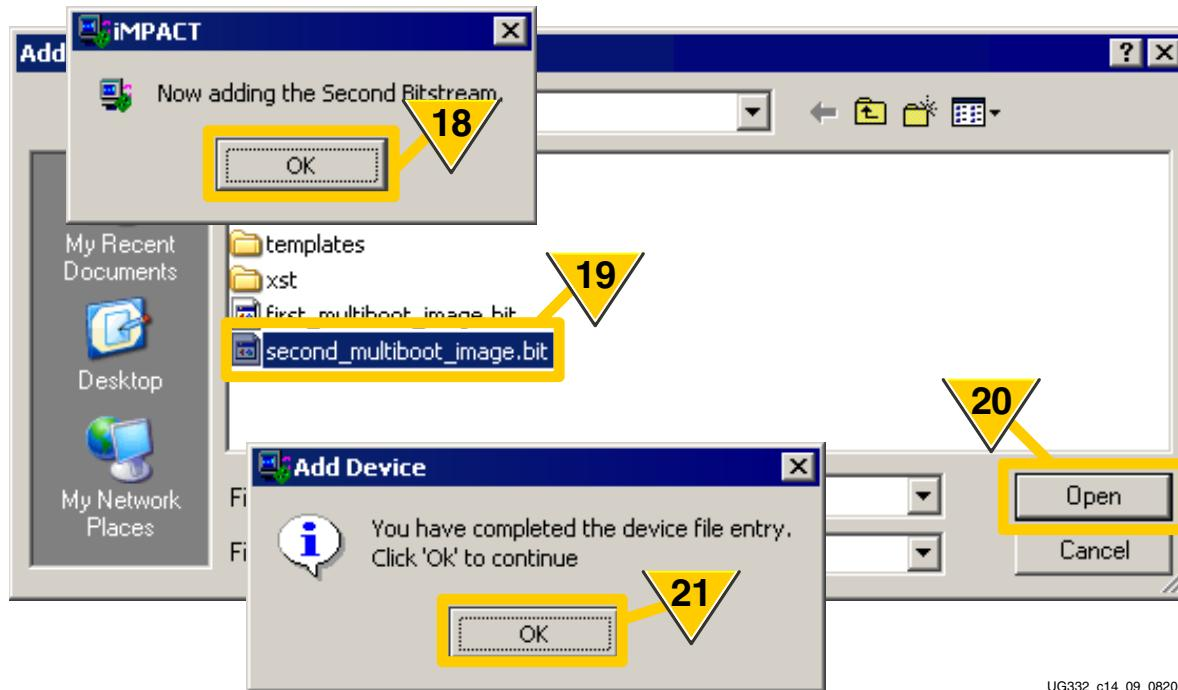

Figure 14-8: Select the Second MultiBoot Configuration Image
18. As shown in Figure 14-8, the iMPACT software then prompts for the second MultiBoot configuration image.